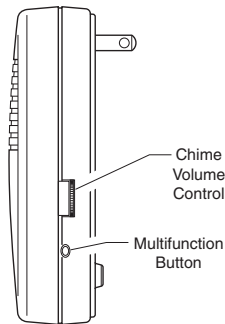

Figure 2
4. Adjust volume control. Unplug chime and adjust volume control to desired volume (see Figure 2). Plug chime back into wall outlet.